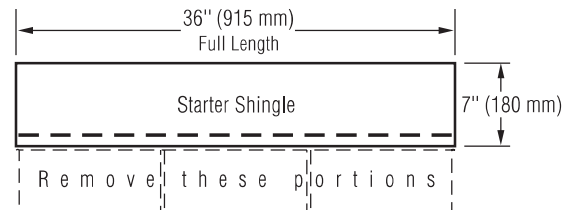

Figure 10-6: Make starter shingles by removing the lower 5" tabs.
1. Use CertainTeed Swiftstart® or a starter course consisting of the shingles from which the lower 5" tabs have been removed (Figure 10-6). Remember, the sealant on starter courses should lie as close as possible to the eaves edge of the roof.
1. Use CertainTeed Swiftstart® or a starter course consisting of the shingles from which the lower 5" tabs have been removed (*Figure 10-6*). Remember, the sealant on starter courses should lay as close as possible to the eaves edge of the roof.
1. Use CertainTeed Swiftstart® or a starter course consisting of the shingles from which the lower 5" tabs have been removed (Figure 10-6). Remember, the sealant on starter courses should lay as close as possible to the eaves edge of the roof.